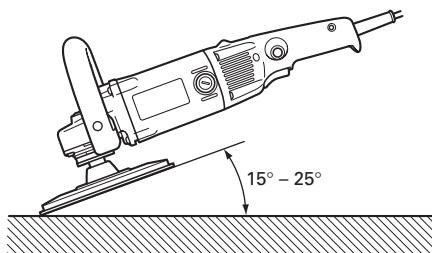

Fig. 3
2. Rather than applying the entire disc surface to the metal surface to be ground, use the sander by inclining it approximately 15°~25° to grind with the disc peripheral portion. (Fig. 3).